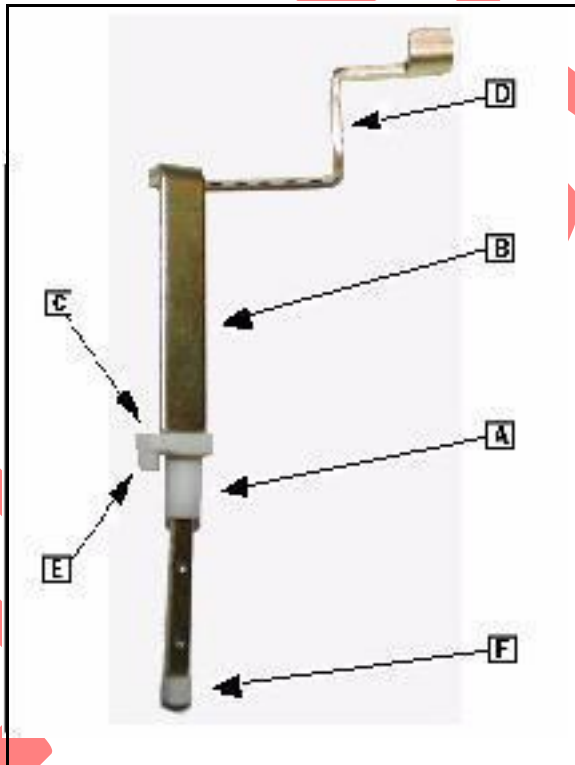
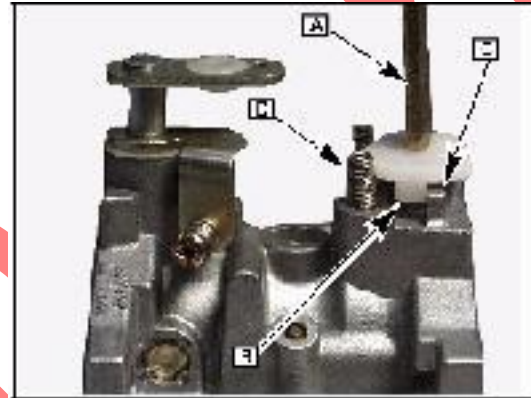

Fig. 38
Fig. 39
5. Place upper choke shaft bushing ([A] Fig. 39) on choke shaft ([B] Fig. 38) with the detents ([C] Fig. 39) facing away from the long choke lever arm ([D] Fig. 38) and the stop ([E] Fig. 38) facing the bottom of the shaft.
6. Place bottom bushing ([F] Fig. 38) on bottom of choke shaft.
Install choke shaft ([A] Fig. 39) into carburetor.
NOTE: Make sure the choke shaft retainer stop ([B] Fig. 39) is between the carburetor body stop ([C] Fig. 39) and the detent spring ([D] Fig. 39) in order to install the choke plate next.